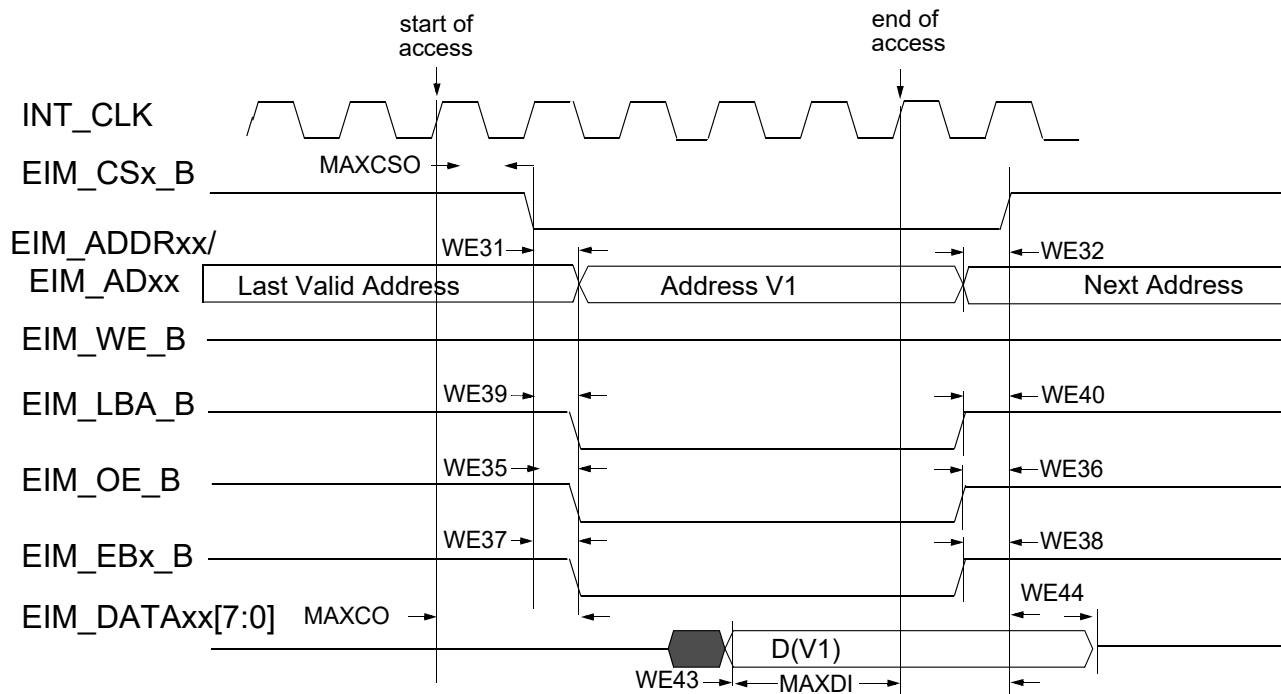
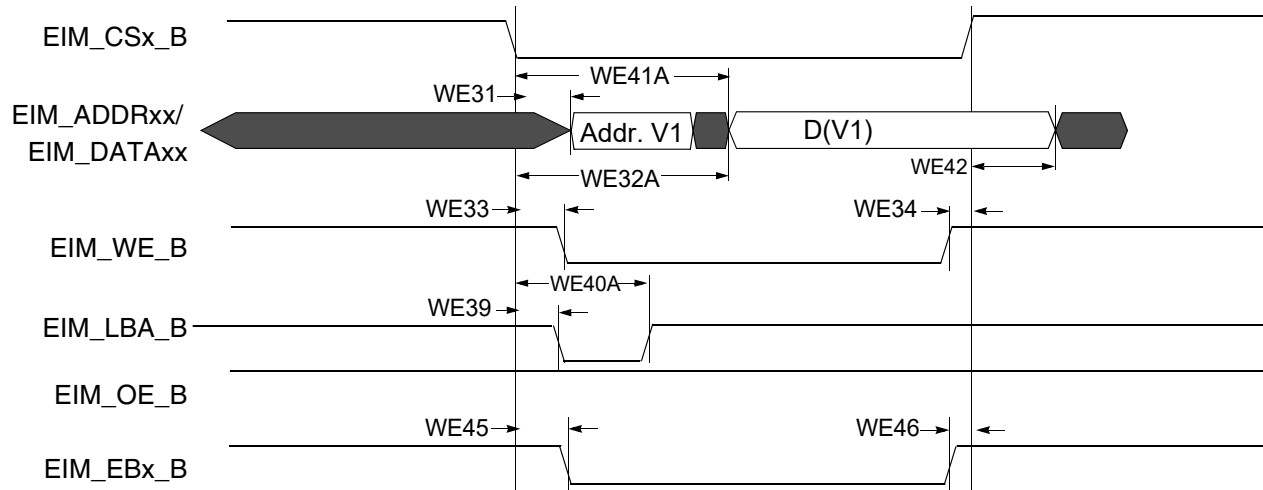
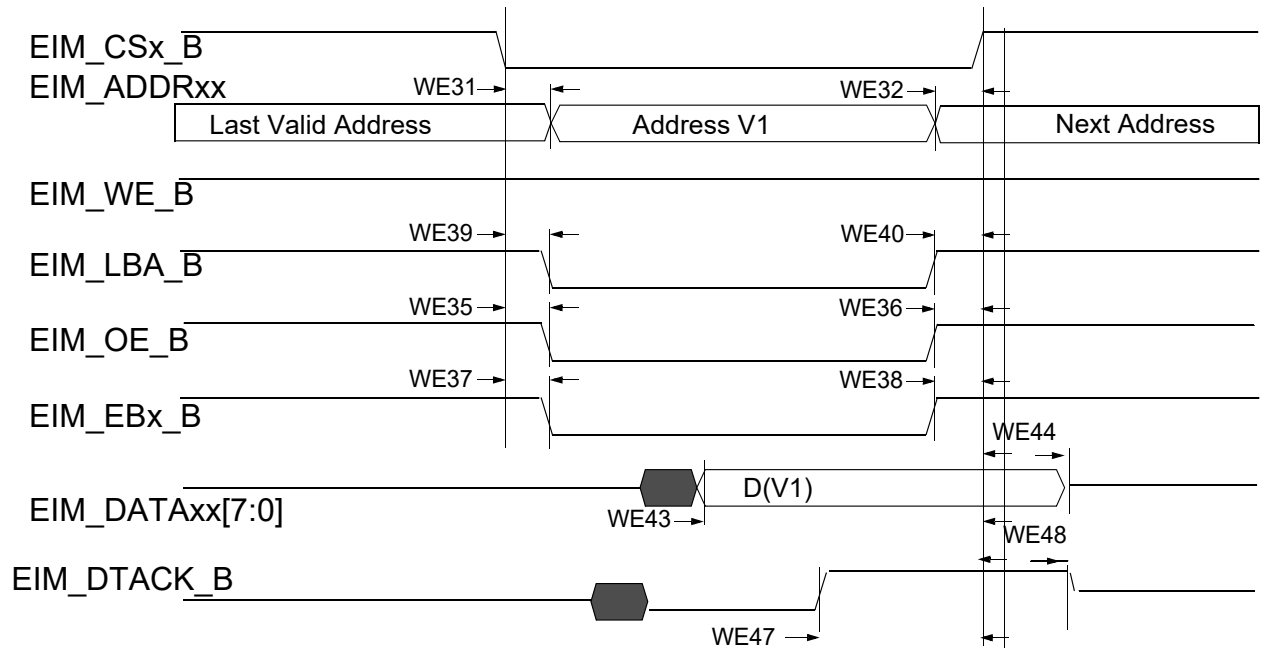

Figure 17. Asynchronous Memory Read Access (RWSC = 5)
Figure 20. Asynchronous A/D Muxed Write Access
Figure 21. DTACK Mode Read Access (DAP=0)
Figure 17 through Figure 21, and Table 39 help you determine timing parameters relative to the chip select (CS) state for asynchronous and DTACK EIM accesses with corresponding EIM bit fields and the timing parameters mentioned above.
Asynchronous read & write access length in cycles may vary from what is shown in Figure 17 through Figure 20 as RWSC, OEN and CSN is configured differently. See the *i.MX 6Solo/6DualLite Reference Manual (IMX6SDLRM)* for the EIM programming model.